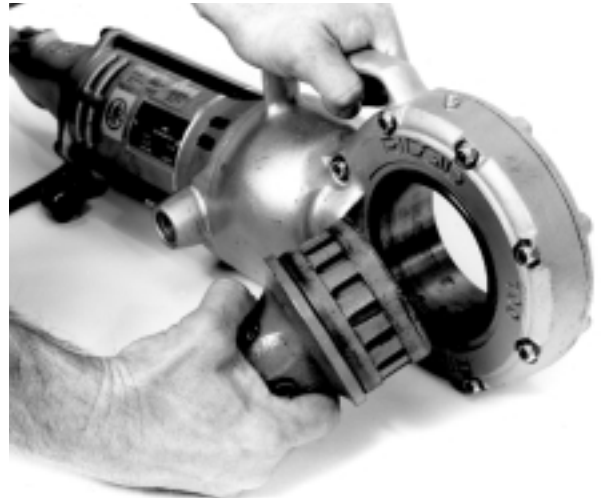

Figure 4 – Installing 774 Drive Adapter
- a. Push 774 Square Drive Adapter, spline end first, squarely into power drive face gear until spring loaded adapter pawls catch securely (Figure 4).